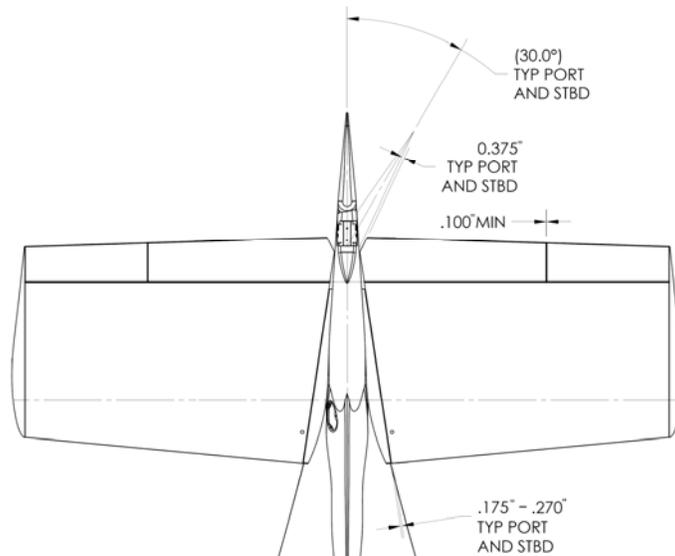

Figure 27-95 Tail Section Measurements
8. Check the clearances of the rudder to the stabilizers as shown in Figure 27-95.
9. Only if disturbed verify all jam nuts on each of the rod ends within the control circuit, eight (8) places have been fully tightened.
10. Visually check pushrods rod ends (8) for approximately equal amount of thread showing.
If the rudder deflection is adjusted, check all combinations of trim tab / horizontal stabilizer movement against full rudder travel to ensure a minimum clearance of 0.375in between inboard aft corner of trim tab (worst condition tail plane and trim tab extended fully down) and rudder skin at maximum rudder travel see Figure 27-95.